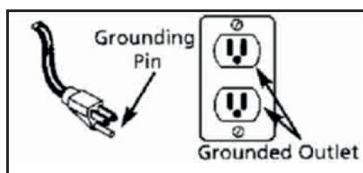

Figure 2
1. This product is for use on a nominal 230volt circuit and has a grounding plug that looks like the plug illustrated in Fig.2. Make sure the product is connected to an outlet having the same configuration as the plug. This product must be grounded. In the event of an electrical shock by providing an escape wire for electric current. This product is equipped with a cord having a grounding wire with an appropriate grounding wire with an appropriate grounding plug. Plug must be plugged into an outlet that is properly installed and grounded in accordance with all local codes and ordinances.